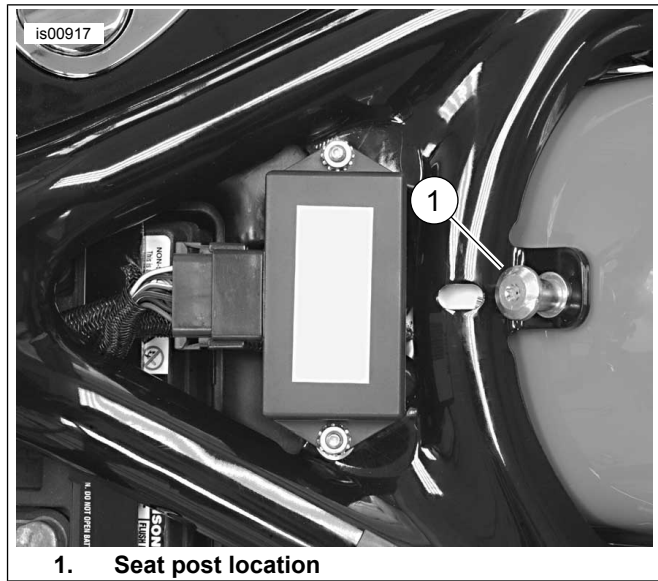

Figure 3. Seat Post
3. See Figure 3. The seat is attached to the vehicle at three points. Angle the front of the new seat into place so that the tongue engages the slot at the rear of the fuel tank mounting location.